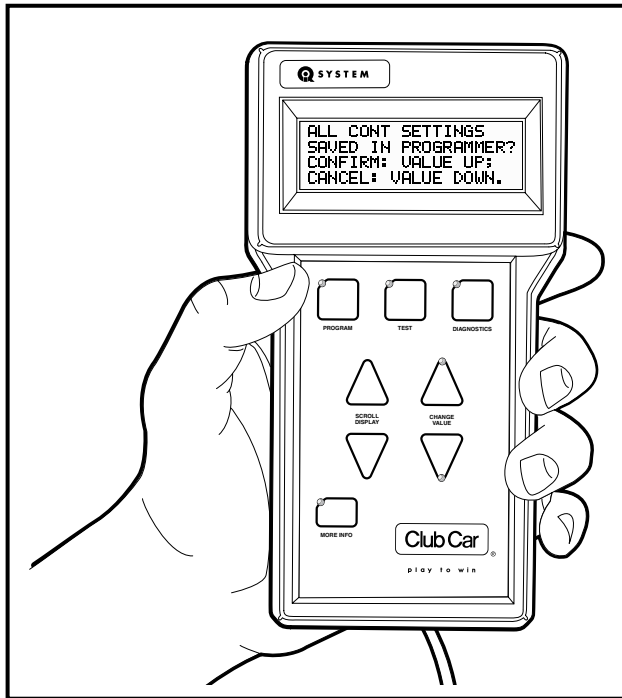

Figure 15 Controller Settings Transfer to IQDM
3. After pressing the MORE INFO button, a prompt will appear to confirm the operation (**Figure 15**). To abort the operation, press the CHANGE VALUE down button; otherwise, proceed to the next step.
6. After pressing the MORE INFO button, a prompt will appear to confirm the operation (**Figure 15**). To abort the operation, press the CHANGE VALUE down button; otherwise, proceed to the next step.